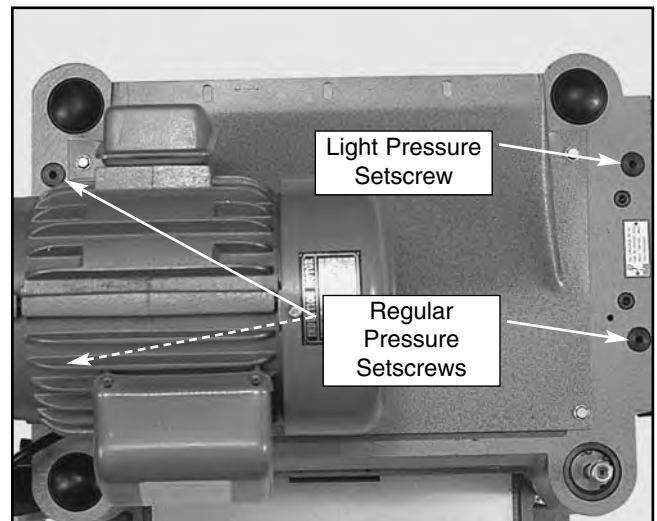

Figure 21. Roller pressure adjustment.
3. Unscrew the four large pressure setscrews on top of the planer body. See **Figure 21**.